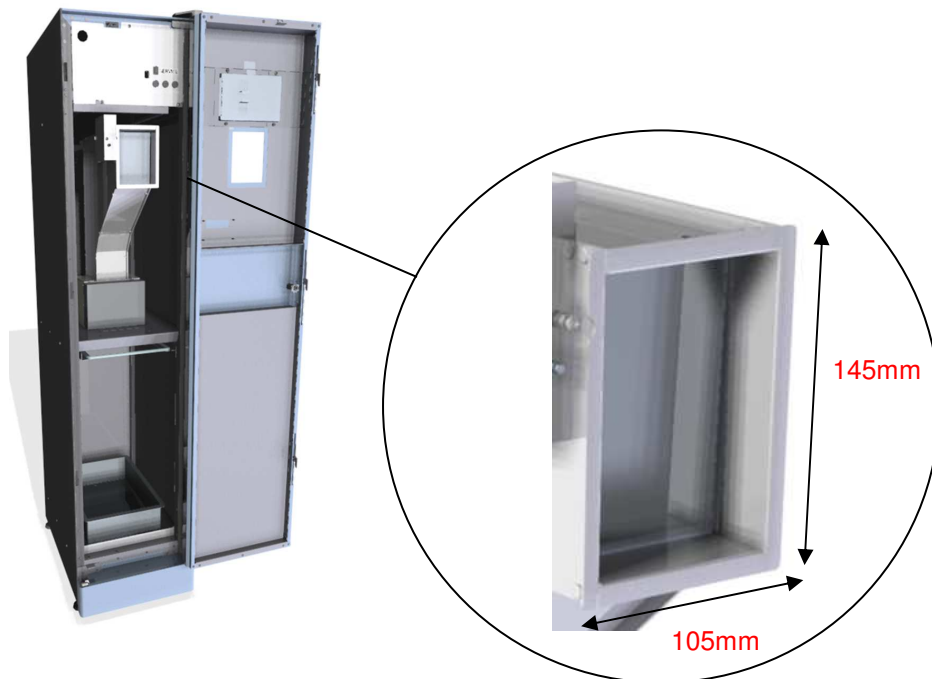
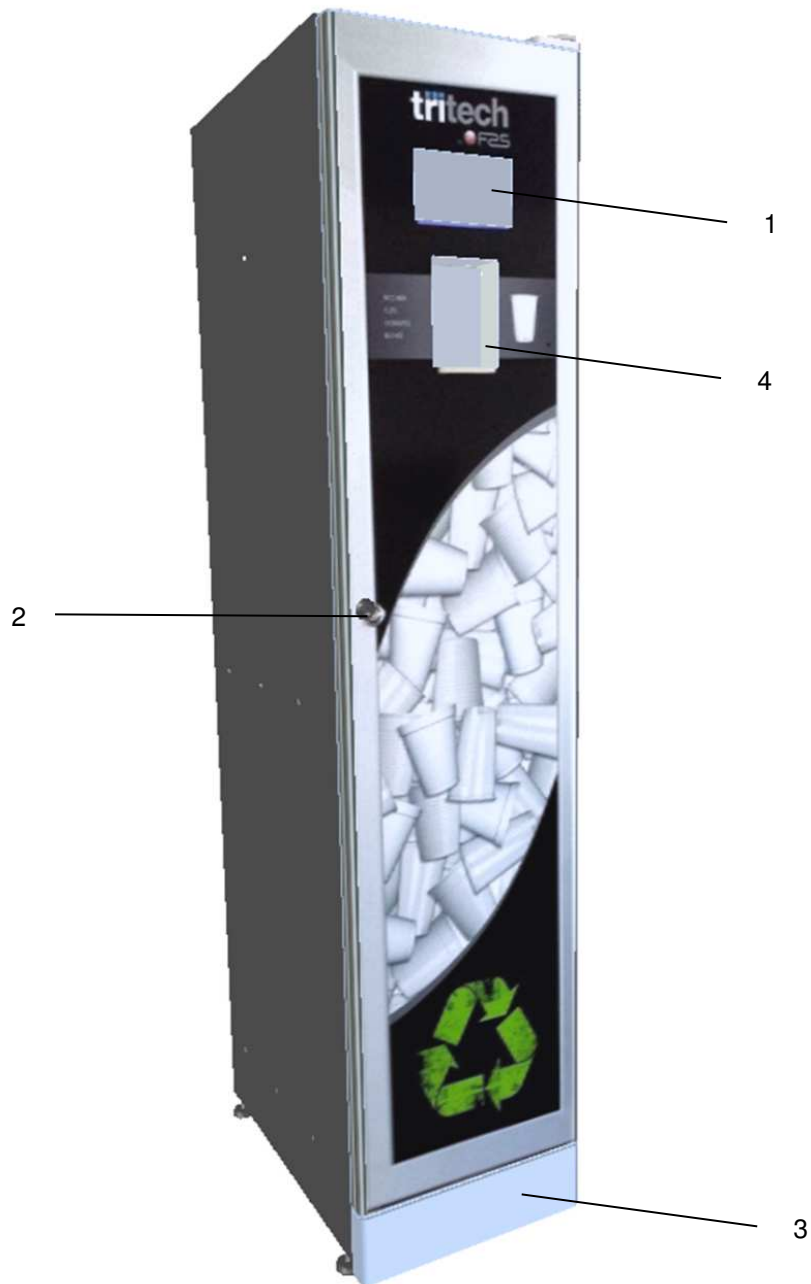

Fig.2
Fig. 3
<p>The machines covered by this manual, are intended to be used to</p> <ul style="list-style-type: none"> <li>- crush thin plastic bottles (hereinafter indicated as "bottles") and empty aluminium cans (hereinafter indicated as "cans") in the case of the compactor</li> <li>- shred plastic or paper cups in the case of the shredder</li> </ul> <p>For bottles and cans, the section must not exceed the dimensions given in Fig.2</p>
2. The touchscreen display (ref. 1 fig. 3) comes on; wait until it reads: **“INSERT BOTTLE OR CAN”** or **“INSERT CUP”**
1. Push on the hatch ref. 4 figure 3 with the bottom of the bottle or can, just enough to overcome the force of the small magnet holding it closed (for admissible bottle and can dimensions see Figure 2)